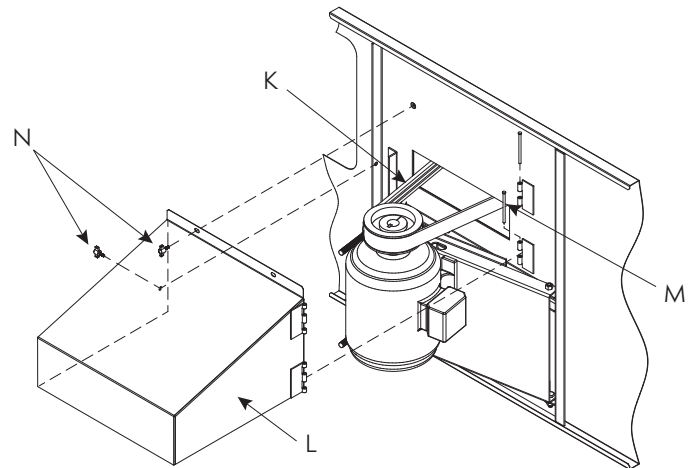

Figure 17b – Motor Guard and Power-Band Belt Installation
7. Install Power-Band belt **K** (**Figure 17b**) around fan sheave and motor sheave. Tighten belt by adjusting nuts on J-bolts. Do not overtighten the belts. The center of the belt should deflect approximately 1/2" (13 mm) in the horizontal plane with moderate hand pressure.
10. To install motor guard **L**, match up hinges and install hinge pins **M** as shown in **Figure 17b**.